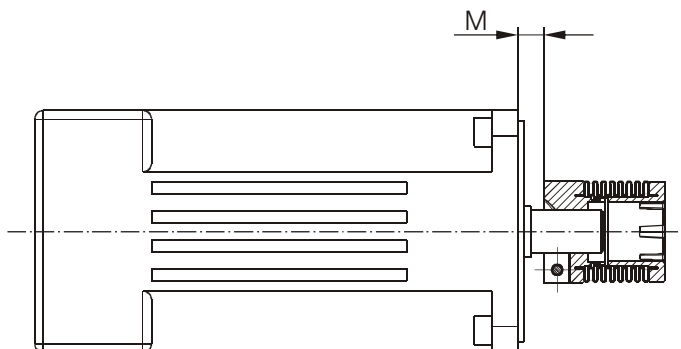

Fig. 12
6. Push the removed coupling halves with the hub in front onto the shaft of the second unit (see Fig. 12).